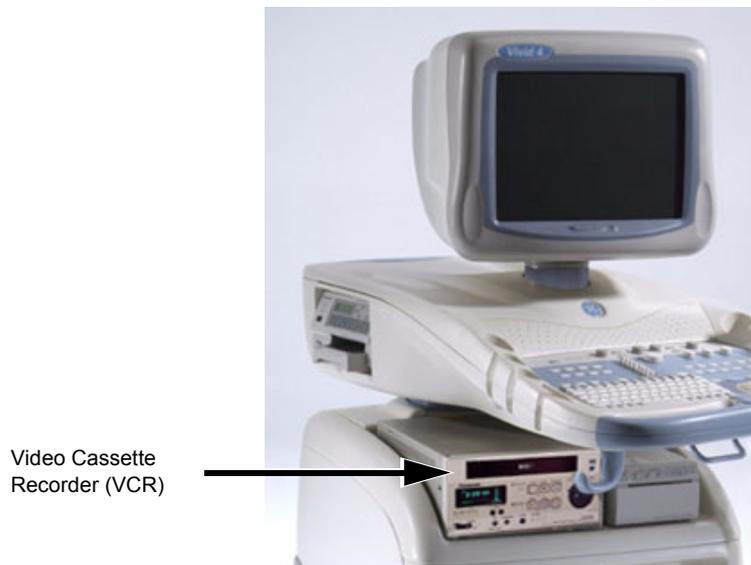

Figure 8-125 Panasonic Video Cassette Recorder (VCR) Installed in the Vivid™ 4 Ultrasound Unit
- 2.) Place the VCR on the Vivid™ 4 ultrasound unit's top surface (*left* side, below the control console, as shown in Figure 8-125 below), allowing sufficient room to access the cables at the rear of the VCR.